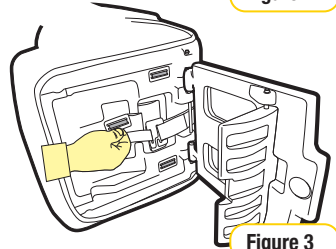

Figure 3
- Step 4:** To release the buckle / crotch strap pass the three bar slides attached through the crotch slot holes in seat section (see Figure 3).
- Step 1:** Connect the buckle/crotch strap by feeding the three bar slides on the crotch strap through the holes in seat section (see Figure 3).
- Step 3:** Engage and disengage the Harness Tongues and Buckles several times until a strong audible **“CLICK”** is heard when inserting the last tongue (refer Figure 3).